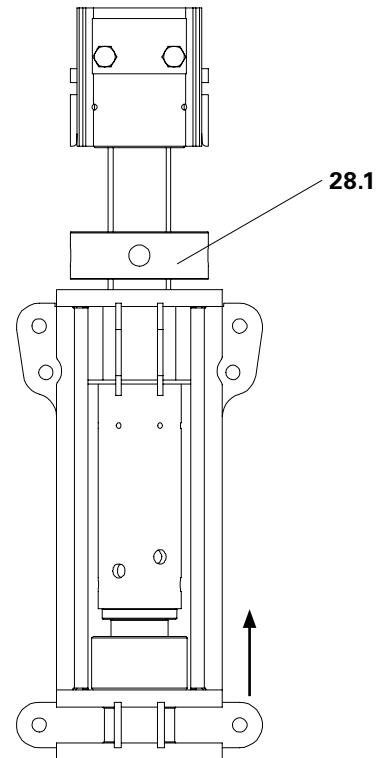
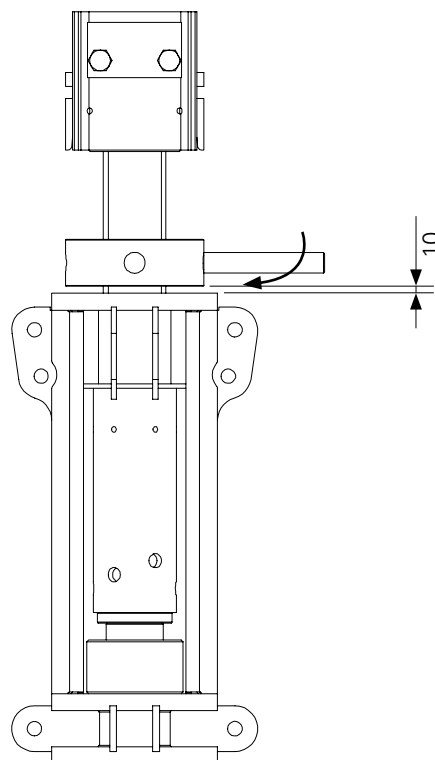

Fig. D2.02
Fig. D2.03
3. Completely extend the hydraulic cylinder (43.4) until the spindle nut (28.1) can freely move. (Fig. D2.02)
4. Insert the Mounting Shaft VST (29) into the spindle nut (28.2).
5. Turn the spindle nut (28.1) with Mounting Shaft VST (29) until there is a 10 mm spacing to the head plate. (Fig. D2.03)